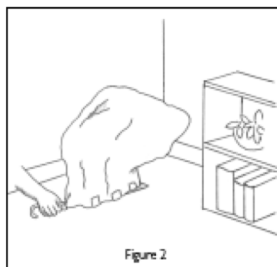

Figure 2
- Count how many seconds it takes for the bag to inflate. (See Figure 2)